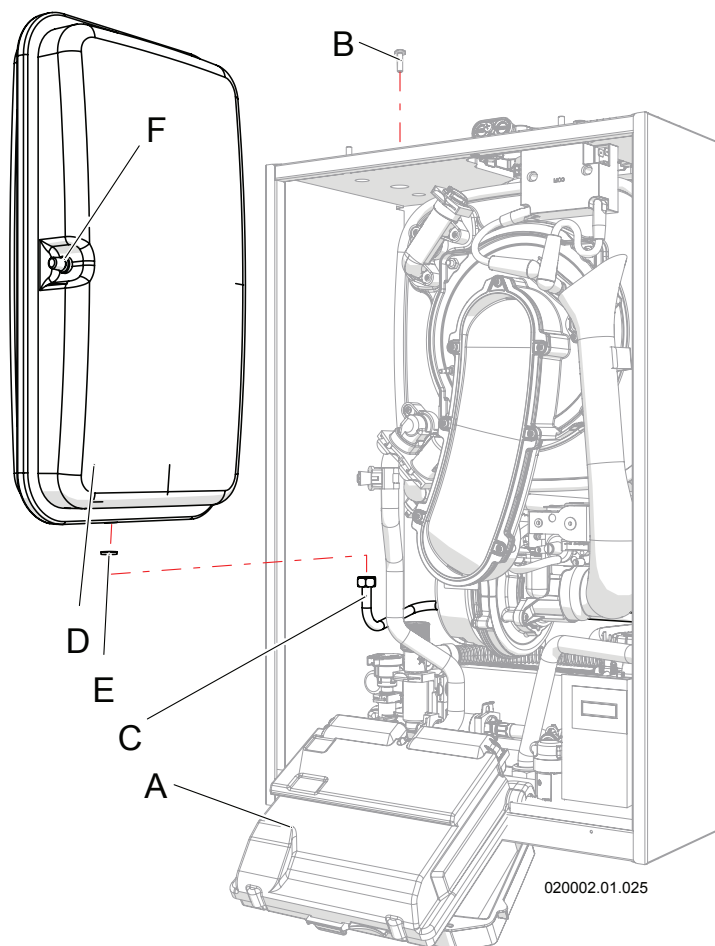

Figure 8-6 – Access to the expansion tank
- 3.- Use pin "F" in figure 8-6 to pump air into the tank until it reaches 1 bar. At the same time, allow water to flow from exhausts "A" and "B" in figure 8-18;
If the tank needs replacing, proceed as follows to remove it (refer to figure 8-6 when not specified otherwise):